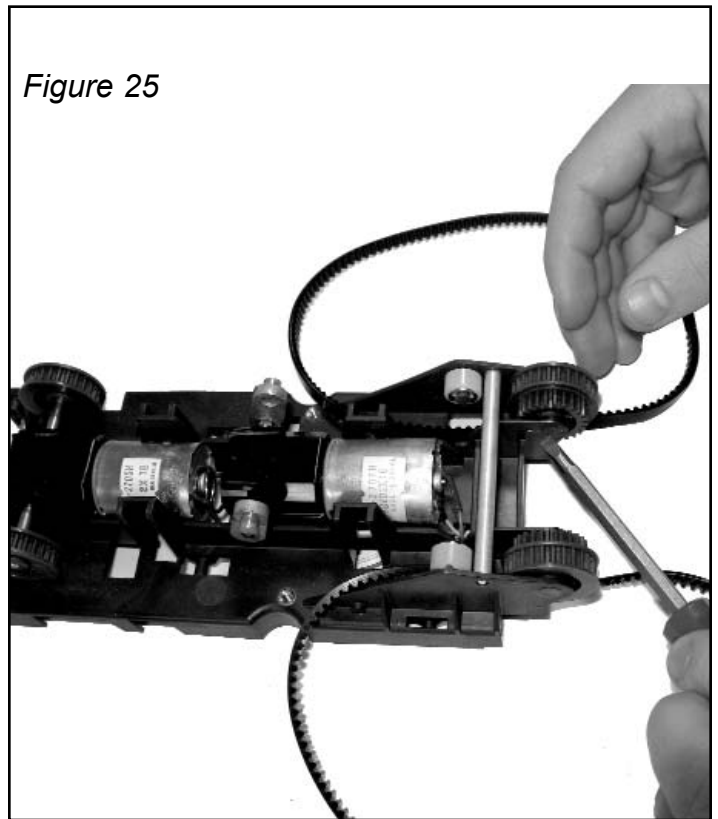

Figure 25
2. Use screwdriver to push out retaining pin and remove belts. (Figure 25)